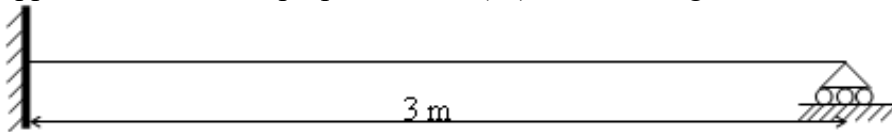

Figure.1
- j) Find the ordinate of the influence line diagram, at a section 2 m from the fixed end, for the support reaction at the prop of a beam (EI) shown in Figure.1. [3]